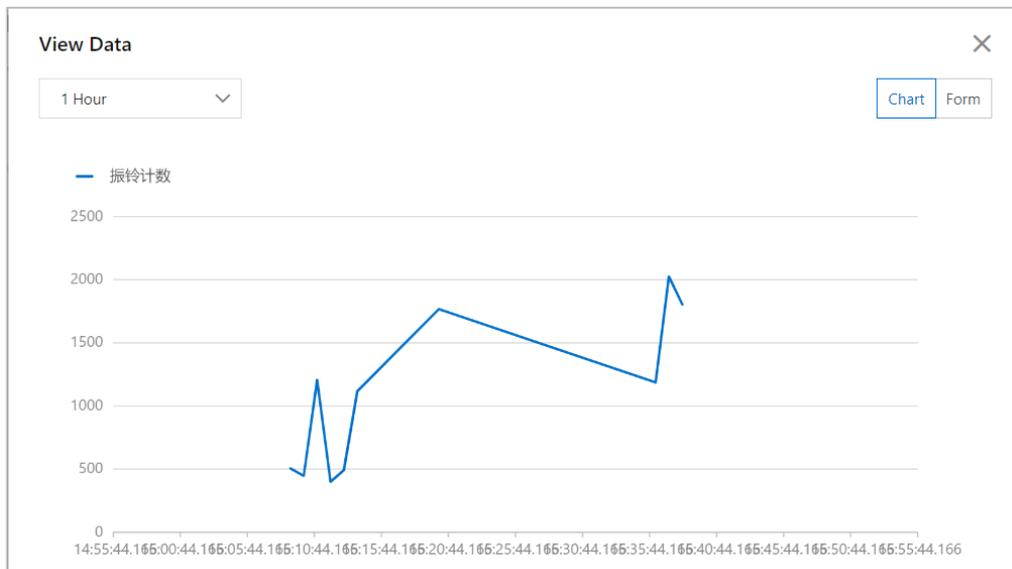

Fig. 4-59 Qingcheng Alibaba Cloud
- (4) There is a “View Data” button on the upper right corner of each parameter block. Click on the button to view the parameter history chart or form. (Figure 4-59)